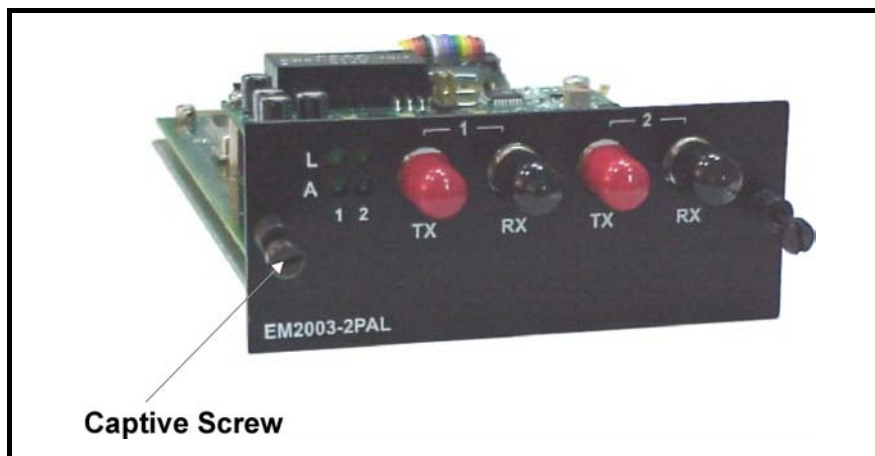

Figure 33: EM2003-2PAL Layout
5. Fasten the EM2003-2PAL with its two captive screws (shown in *Figure 33*).
2. Loosen the two captive screws on the EM2003-2PAL (shown in *Figure 33*) and gently pull out the EM2003-2PAL.